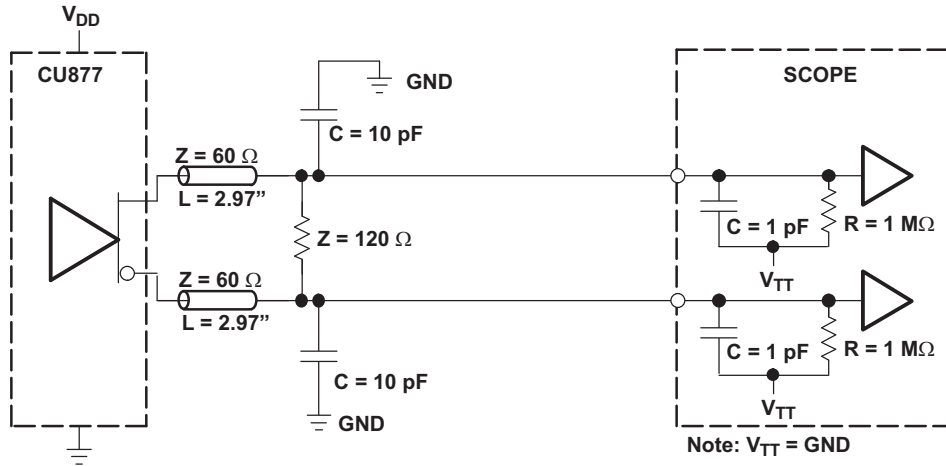
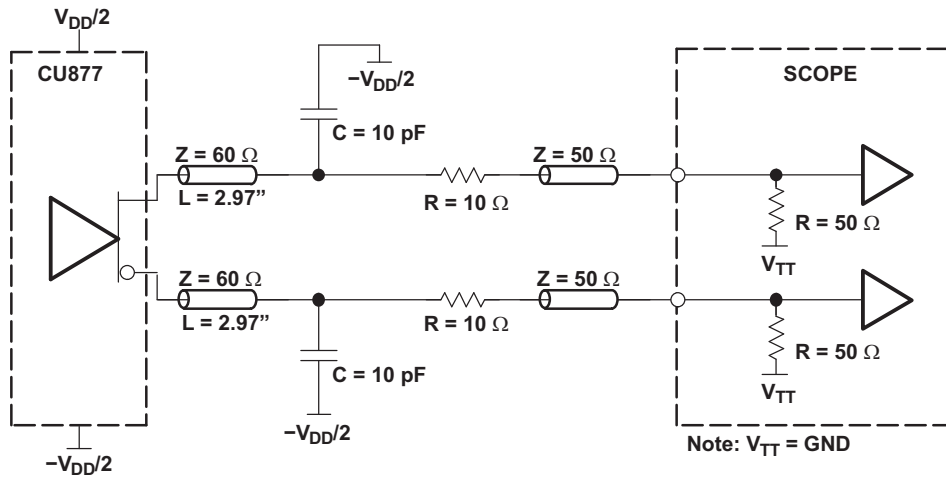

Figure 2. Output Load Test Circuit 1
Figure 3. Output Load Test Circuit 2
- (1) There are two different terminations that are used with the following tests. The load/board in Figure 2 is used to measure the input and output differential-pair cross voltage only. The load/board in Figure 3 is used to measure all other tests. For consistency, equal length cables must be used.
- (2) This parameter is specified by design and characterization.
- (3) Phase static offset time does not include jitter.
- (4) Period jitter, half-period jitter specifications are separate specifications that must be met independently of each other.
- (5) The output slew rate is determined from the IBIS model with a 120- Ω load only.
- (6) To eliminate the impact of input slew rates on static phase offset, the input skew rates of reference clock input CK and \overline{CK} and feedback clock inputs FBIN and \overline{FBIN} are recommended to be nearly equal. The 2.5-V/ns skew rates are shown as a recommended target. Compliance with these typical values is not mandatory if it can adequately shown that alternative characteristics meet the requirements of the registered DDR2 DIMM application.
- (7) Output differential-pair cross voltage specified at the DRAM clock input or the test load.
- (8) V_{OX} of CDCU877A is on average 30 mV lower than that of CDCU877 for the same application.